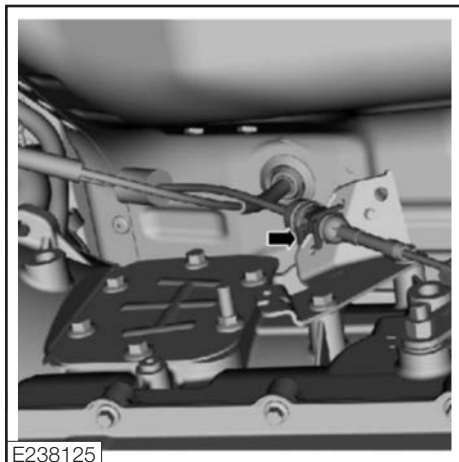

Figure 97
2. Install the selector lever cable and the clip (Fig. 97).